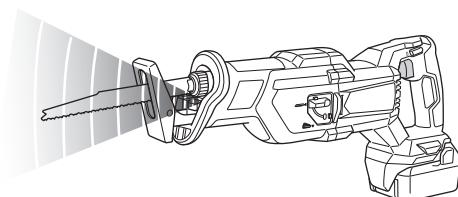

Fig. 16
**SEMNALE DE AVERTIZARE ALE BECULUI LED (Fig. 16)**